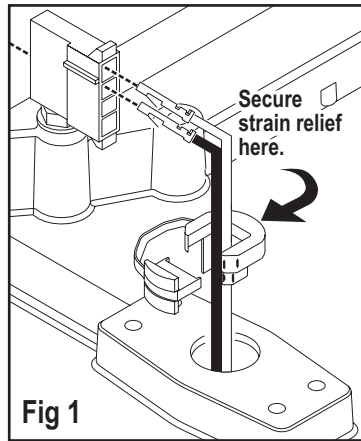

Fig 1
6. All models require you to replace the strain relief to protect the wiring (Fig. 1).